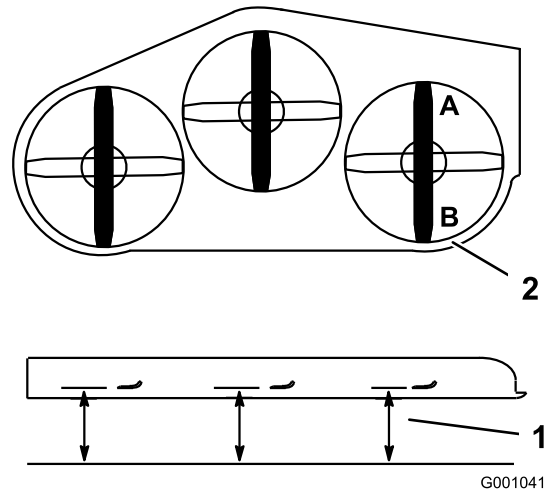

Figure 60
1. Position the **right** blade front-to-rear (Figure 60).
2. Measure the right blade at the **A** location, from a level surface to the cutting edge of the blade tip (Figure 60).
4. Measure the right blade at the **B** location, from a level surface to the cutting edge of the blade tip (Figure 60).
6. The mower blade should be a 1/4 to 3/8 inch (6 to 10 mm) lower at position **A** than at position **B** (Figure 60). If it is not correct, proceed to the following steps.